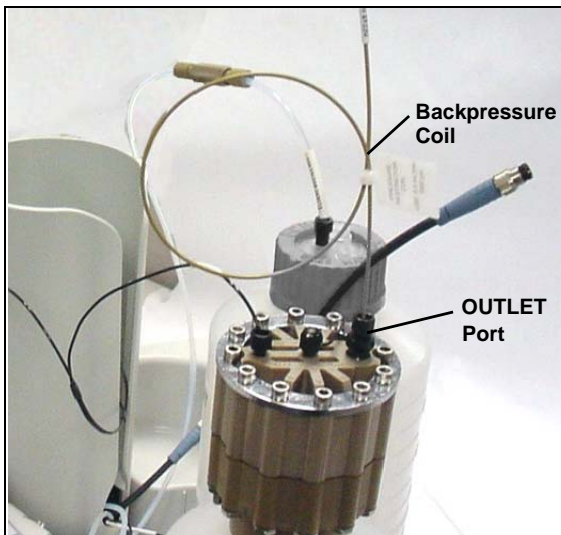

Figure 45. Dionex EGC Outlet Connection for Conditioning the Dionex EGC
7. Connect one end of this coil to the Dionex EGC **OUTLET** port (see Figure 45). Leave the other end of the coil unconnected.